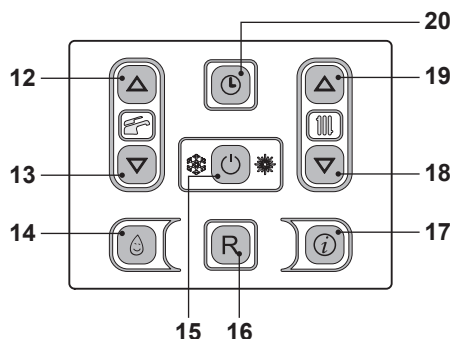

Fig. 7.11
- Press the 15 key for 2 seconds until both  and  symbols appear on the display Fig. 7.11.
- Switch off the boiler by pressing the 15 (Fig. 7.11) key for 2 seconds until the  symbol appears on the LCD display (Fig. 7.10).
- Press the 16 key for 2 seconds until both  and  symbols appear on the display Fig. 7.11.
Press the reset key on the boiler control panel 16 (Fig. 7.11) to reset its functioning.